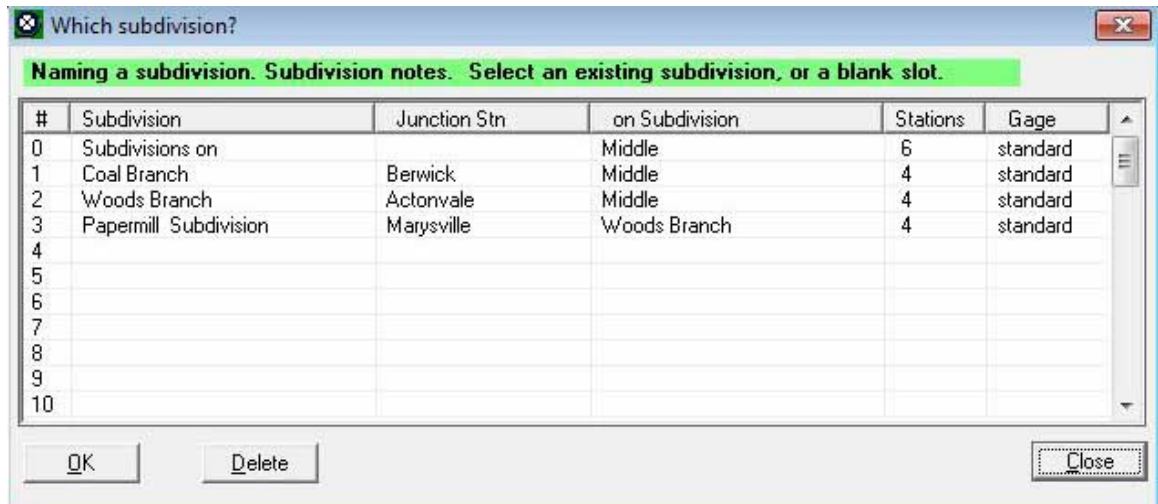

Figure 2-12
8. Select "The Railroad" from the ProTrak toolbar and then select "Subdivision Junctions, names and notes" from the dropdown list. The window shown in Figure 2-12 will appear.